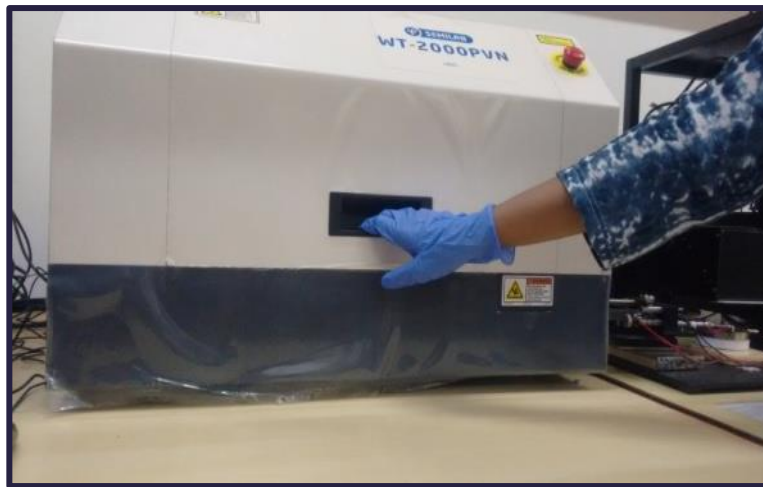

Figure. 9
9. Open the lid of the measuring system. (Figure. 9)